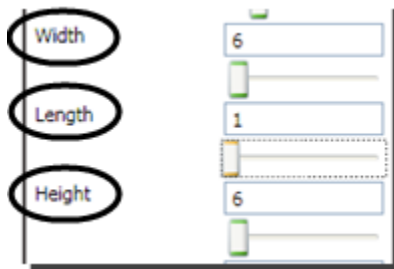
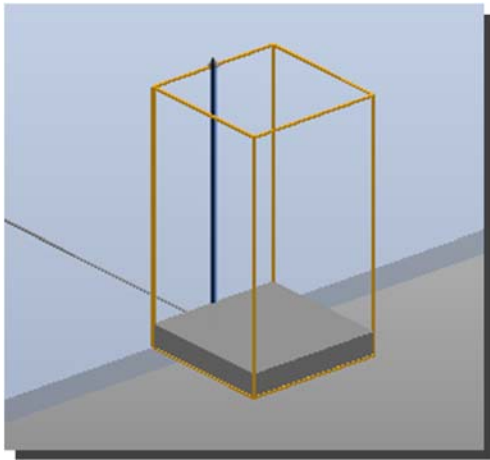

Figure 276
Figure 277
4. Now use the **Width**, **Length**, and **Height** sliders to make the winch look like a lift platform (Figure 276 and Figure 277).